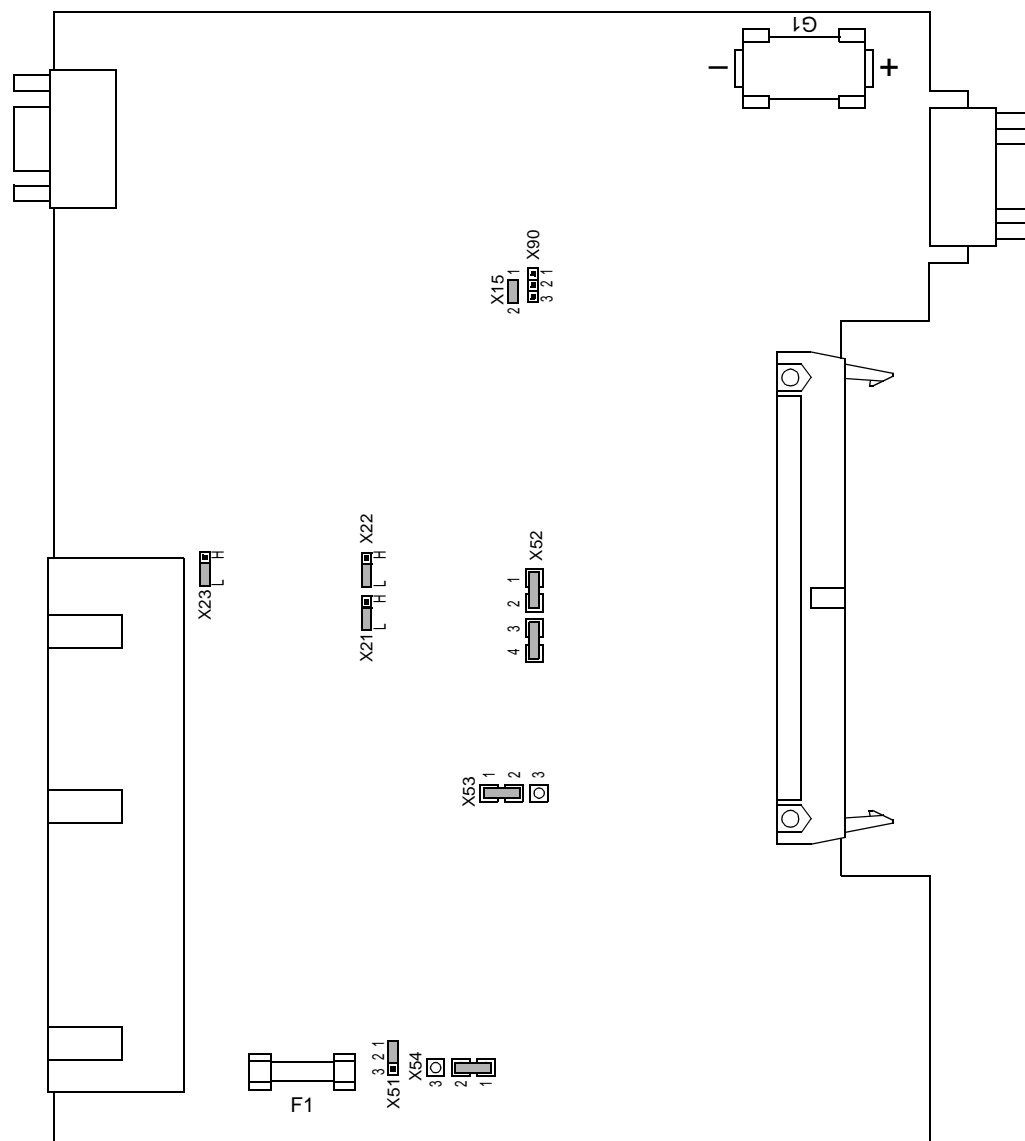

Figure 8-5 Jumpers On The CPU Board For The Power Supply And Binary Inputs BI1 To BI3 (Simplified)
- ☐ Disconnect the ribbon-cables between the CPU board (❶) and the I/O board (❷).
- ☐ Check the jumpers according to Figures 8-5 to 8-9, and Tables 8-2 to 8-6. Change or remove the jumpers as necessary.